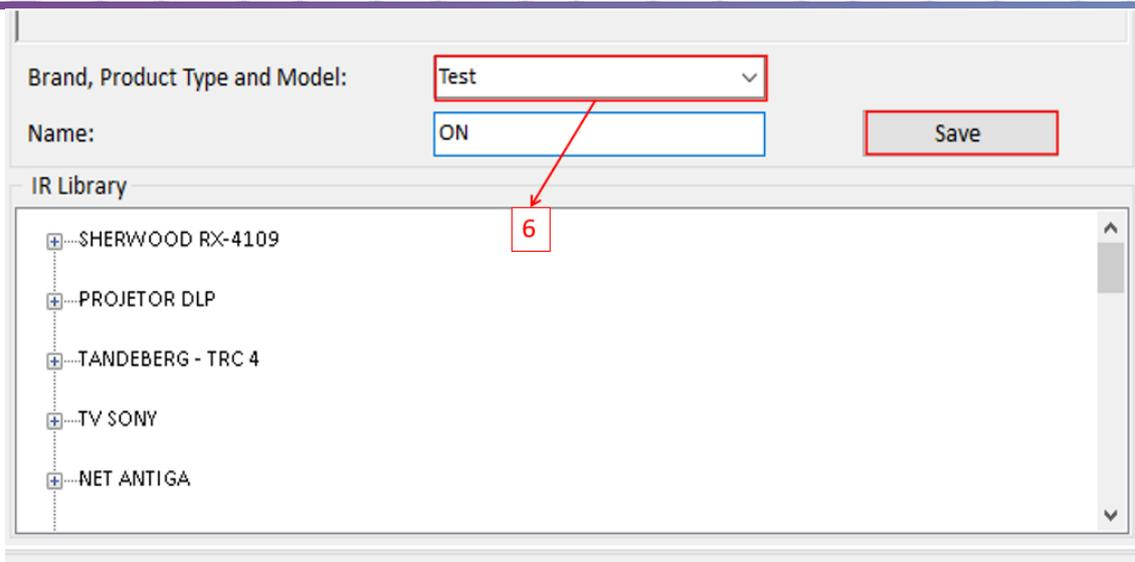

Figure 2-6. IR learner Name
Step 6: Fill a proper name for the device, for example, Media, AC, Haier TV, Samsung TV... And fill a proper name for this code. Then save it. (If you want to delete the code, go to IR learner-> IR library, select code, then press “Delete” button). See Figure 2-6 – IR learner Name.